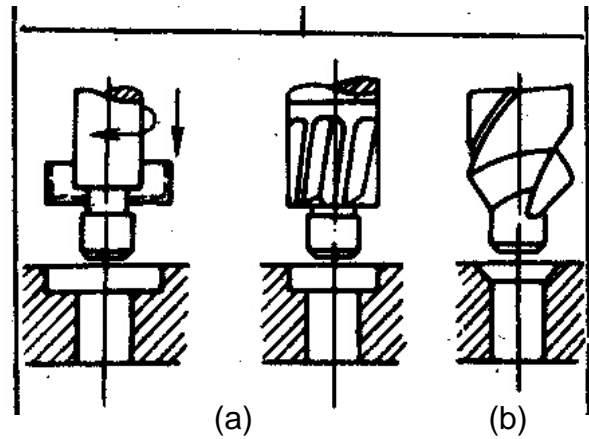

Fig. 4.2.15 Schematic view of (a) counter boring and (b) countersinking
- Counterboring, countersinking, chamfering or combination using suitable tools as shown in Fig. 4.2.15